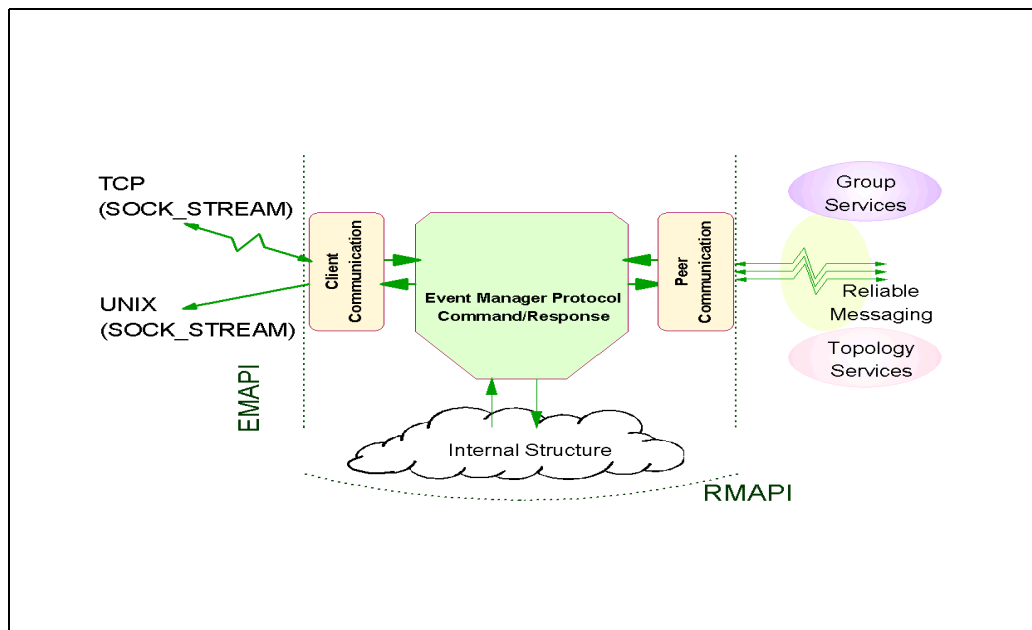

Figure 138. EM client and peer communication
EM is a distributed application, implemented by the EM daemon (haemd), running on each node and the CWS. Similar to Topology Services (TS) and Group Services (GS), EM is partition-sensitive; thus, the CWS may run multiple instances of haemd. To manage its distributed daemons, EM exploits GS. GS serves applications, such as EM. As EM must communicate reliably among its daemons, it uses the Reliable Messaging information built from TS. This is shown in Figure 138.